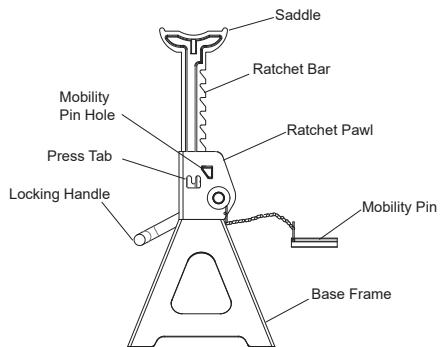

Figure 1 - Typical Jack Stand Nomenclature
3. Verify the product and your application are compatible. If in doubt, contact Pro-Lift Customer Support @ (888)332-6419.
6. Ratchet bar/collar lock is accomplished by bending the press tab (Fig.1) inward using a suitable hammer and punch. This will prevent inadvertent loss of the ratchet bar.